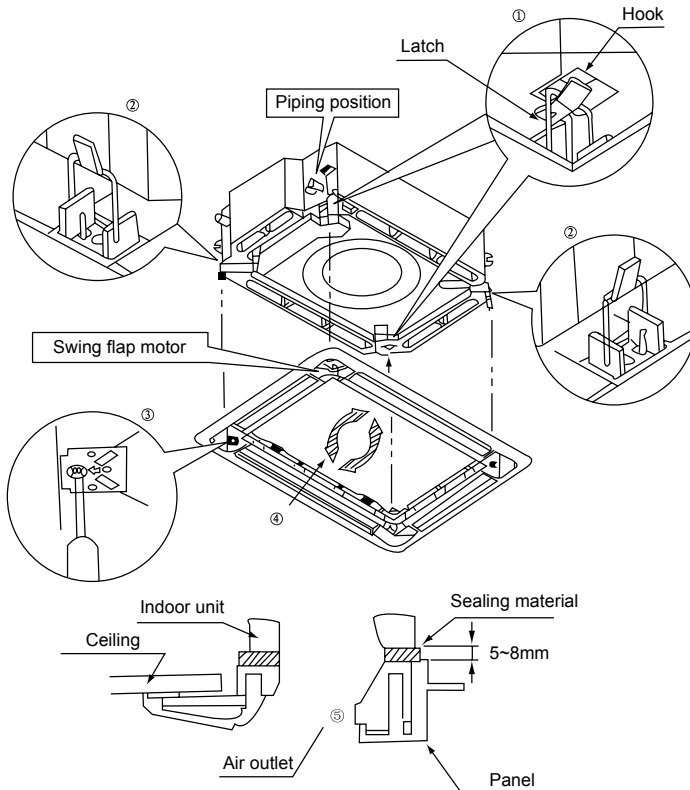

Fig.10.12
Set the panel to the indoor unit body by matching the position of the swing flap motor of the decoration panel to the piping position of the indoor unit as shown in Fig.10.12 below.
- (1). Hang the latch, which is located on the opposite side of the swing flap motor on the panel, temporarily to the hook of the indoor unit. (2 Positions)
- (2). Temporarily hang the remaining 2 latches to the hooks on the sides of the indoor unit. (be careful not to let the swing motor lead wire get caught in the sealing material.)
- (3). Screw all 4 hexagon head screws located right beneath the latches in approximately 15mm. (panel will rise)
- (4). Adjust the panel by turning it to the arrowed direction in Fig.10.12 so that the ceiling opening is completely covered.
- (5). Tighten the screws until the thickness of the sealing material between the panel and the indoor unit body is reduced to 5~8 mm.